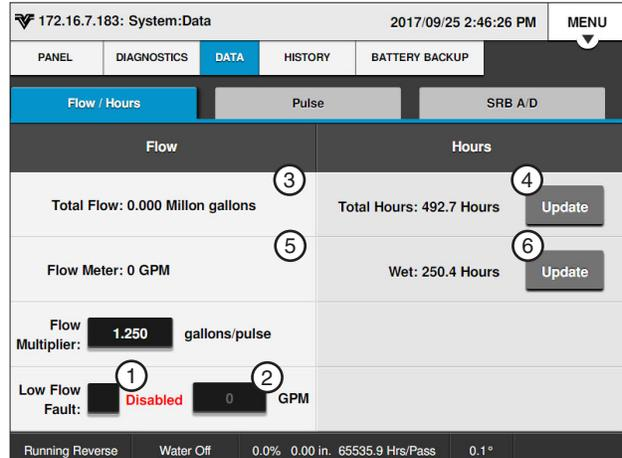

Figure 58-1 1. Low Flow Limit Checkbox
A Low Flow system fault can only occur if the system is above the low pressure setting, the Low Flow Limit feature is on and a flow meter is installed. Refer to Figure 58-1.
1. Push **Menu**, **System**, **Data** and **Flow/Hours** to display the Flow/Hours screen. Refer to Figure 58-1.